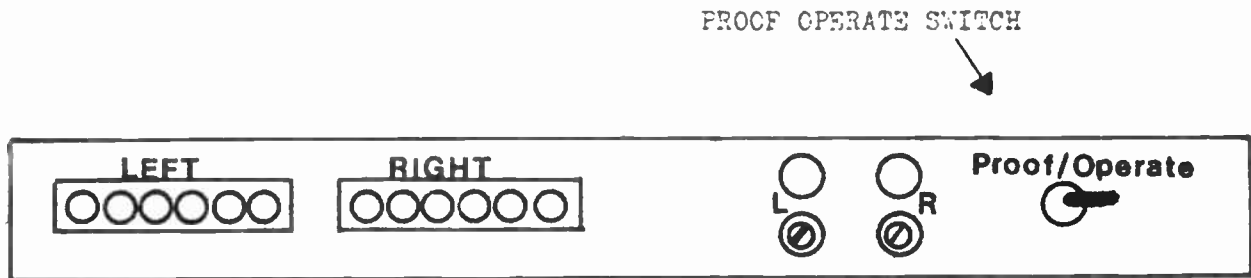

FIGURE 3-5 PROCF OPERATE SWITCH LOCATION
3.2.2 PROCF/Operate Switch (Figure 3-5)